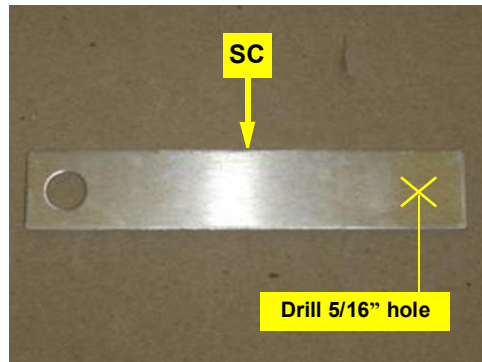

Figure 1b: Drilling the sensor bracket
- b. Drill a 5/16" hole in the sensor bracket **SC** at the opposite end from the pre-drilled sensor hole (Figure 1b).